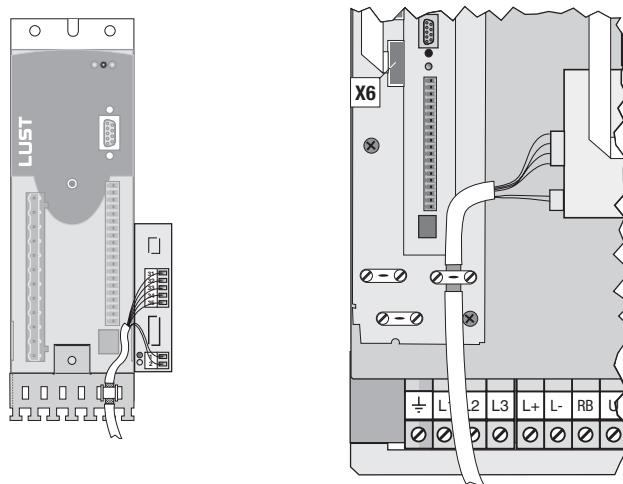

Fig. 5
2. Connect the cable shield as per Fig. 5.